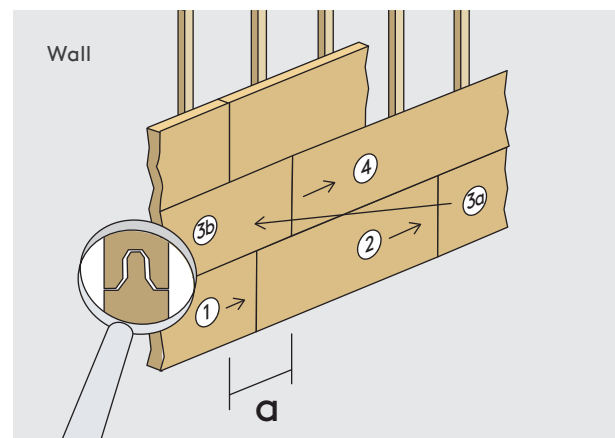

Figure 4
- Installation pattern - recommended offset of vertical joint in next row is 600 mm (Fig. 4).